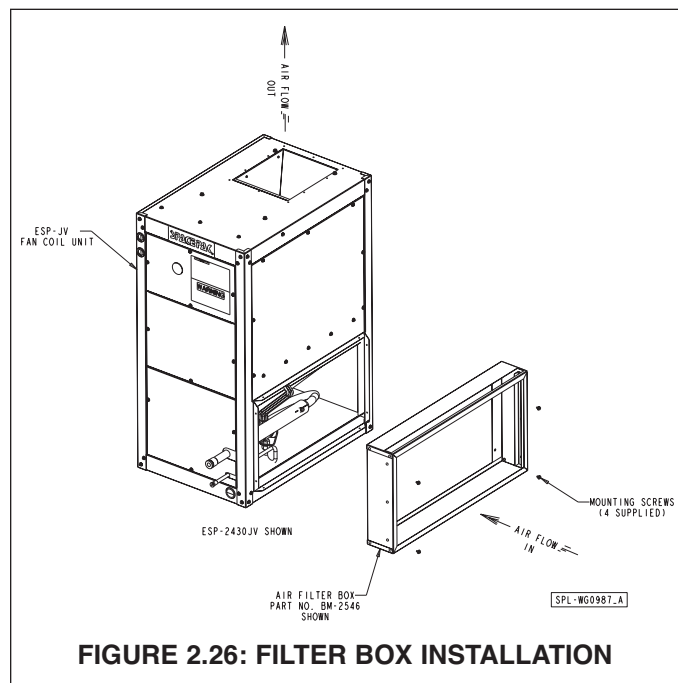

FIGURE 2.26: FILTER BOX INSTALLATION
Center filter box over the elliptical flange of fan coil unit (see Figure 2.26). Mark the (4) hole locations on fan coil unit and drill holes using 5/32" bit. Mount filter box to unit using screws provided and insert air filter.